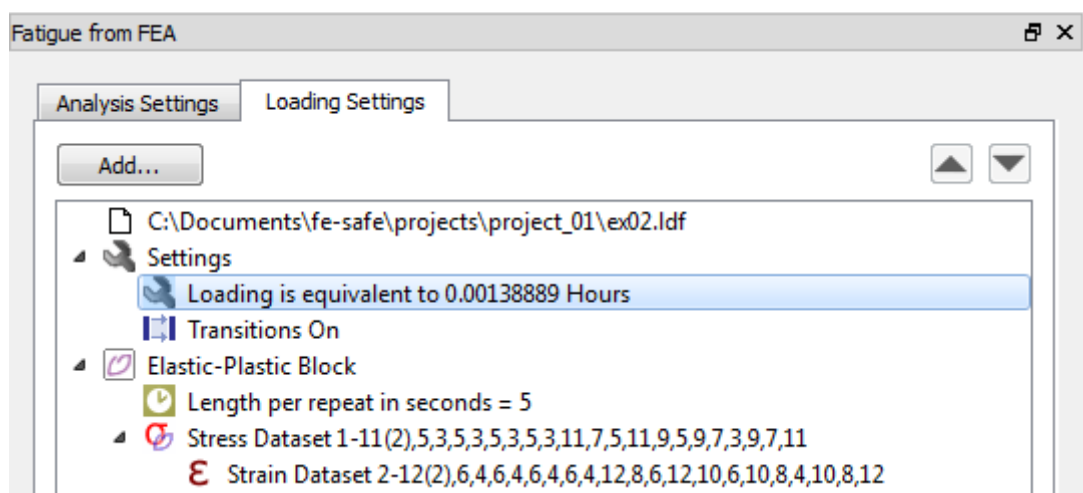

Figure 1-31 Five second loading definition with Loading in Hours
- The loading definition will appear as shown in Figure 1-31: